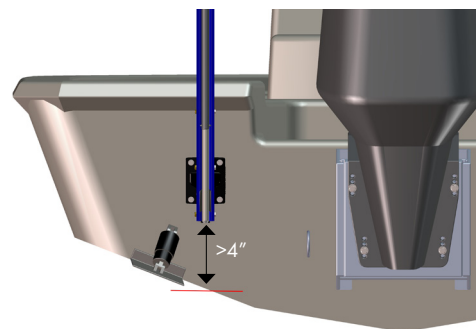

Figure 1
STEP 1 Place a **Straight Edge** on the bottom of the hull directly below and centered from the desired mounting location. The lowest point of the Power-Pole anchor must be at least 4" above this straight edge or the vessel may experience adverse handling effects. **FIG. 1**